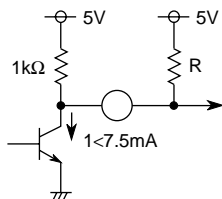

Fig.1
4. The terminal of H, V output pin are shown as Fig.1. It is possible to reduce rise time by insert the resistor between V_{CC} line and H, V output Pin, but set the value of resistor in order that the current is under 7.5mA. Setting the value of R is more than 2k Ω as shown in Fig.1.